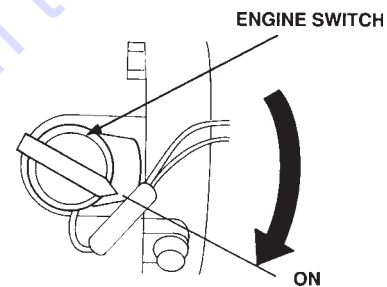

Figure 12. Engine ON/OFF Switch (ON Position)
5. Place the **engine ON/OFF switch** (Figure 12) in the "ON" position.